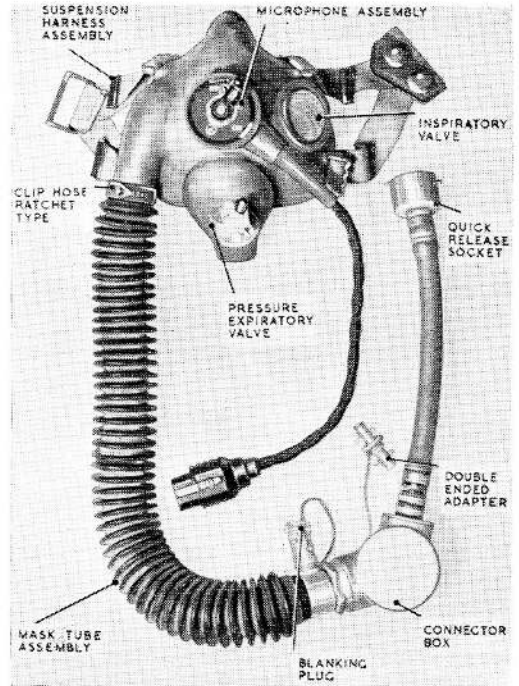

Fig. 7. Oxygen mask, Type M
23. The Type M mask (*fig. 7*) has been